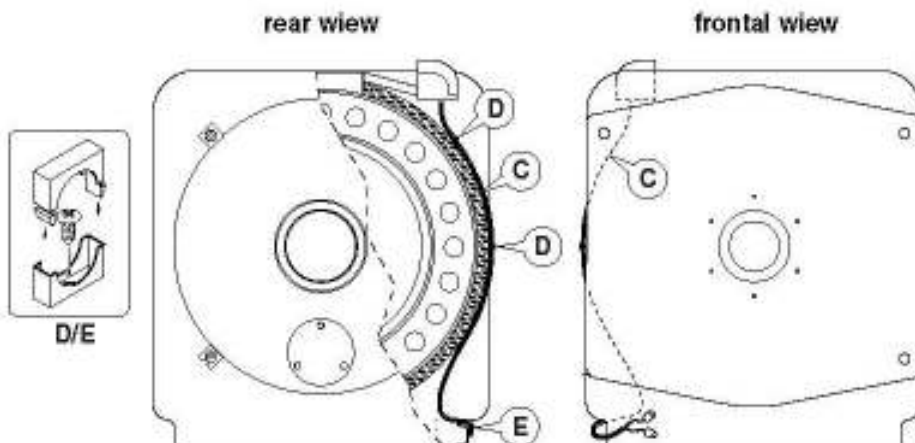

Fig. 11-4
- Pass the burner connection plug through the slot on the lower side of boiler front plate and insert the thermometer and thermostats bulbs in the slot K and in the wells P (see fig. 11-4).
- Using the screws supplied, fit the bases of the supports D and E to support cable C approx. in the positions indicated in fig. 11-4 in according to the indicated values (see fig. 11-5), slide the cable and secure it with the upper support.